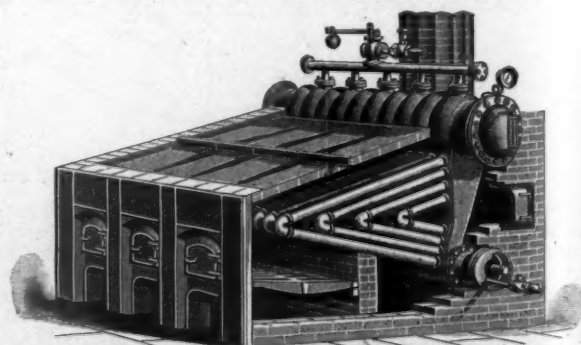

FIG. 51.—KILGORE'S BOILER, 1874.
J. C. Kilgore originated the "Eclipse" boiler (fig. 51), using pipes and fittings to build up his U tube sections; otherwise it was a copy of Allen's 1872 design.